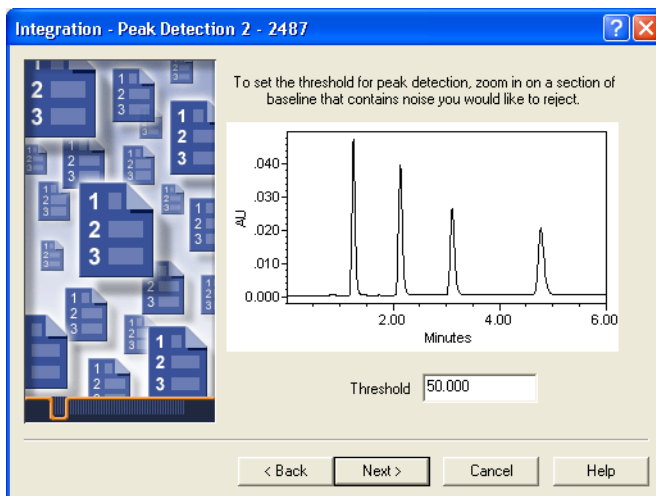

Figure 4-21 Processing Method Wizard, Integration–Peak Detection 2
8. Click **Next**. The Integration–Peak Detection 2 page appears (Figure 4-21). This page allows you to set the threshold for peak detection.